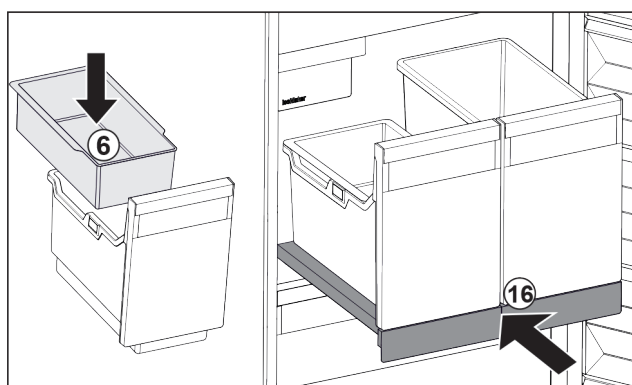

Fig. 198
- Insert hang-on tray Fig. 198 (6) for ice cubes.
- Slide in the pull-out board with (IceTower) container. Fig. 198 (16)